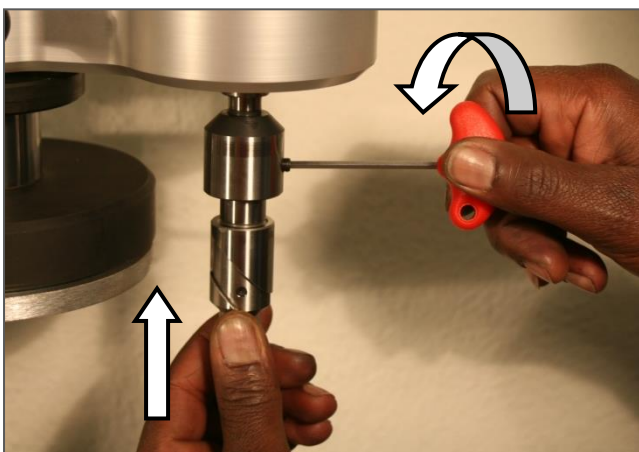

Fig. 36
2. The setscrew can be released by using the gripped inhex key. The tool-head can be pulled out by lightly hand-rotating. Insert the other tool-head in the spindle guide. Check, if the markpoint on the tool head has the same direction as the setscrew in the spindle guide. Adjust the tool-head accordingly and tighten the setscrew to fix it. Fig. 36